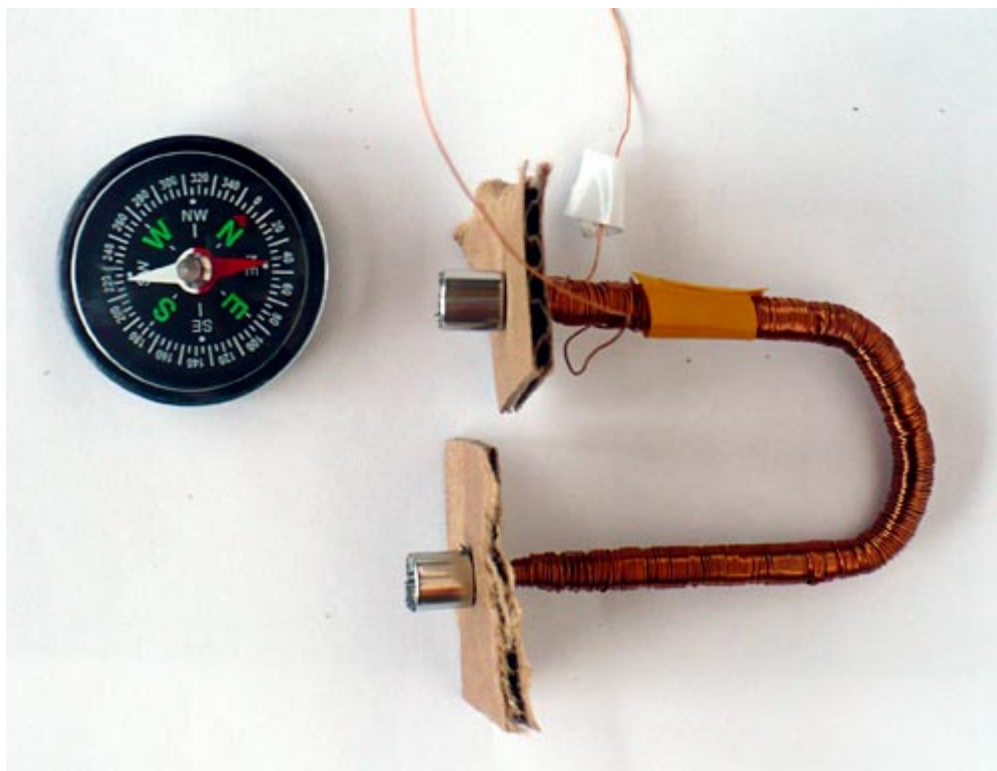

Figure 13. U-shaped coil with magnets and small pieces of cardboard at both ends. A compass is used to detect the magnetic field orientation around the coil.
- b. Connect the ends of the U-shaped coil you recently wound to the two magnets and small pieces of cardboard, as you did in step 1 if you are testing the first configuration or step 8 if you are testing the second configuration. Figure 13, below, illustrates the result.